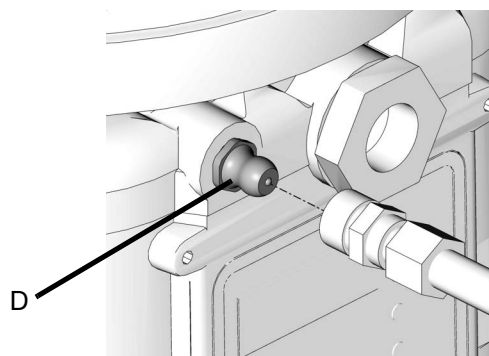

FIG. 14
- Always clean inlet fitting (D) (FIG. 14) with a clean dry cloth prior to filling reservoir. Dirt and/or debris can damage pump and/or lubrication system.